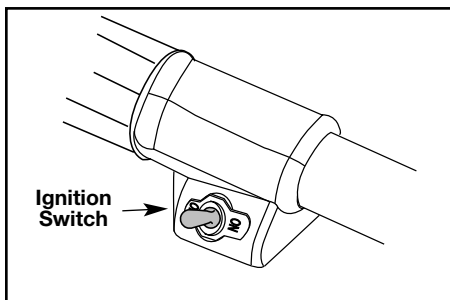
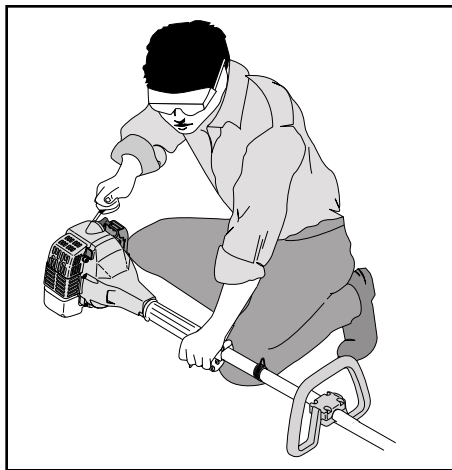

Fig. 5
Fig. 7
2. Put the **IGNITION SWITCH IN THE "ON" POSITION** (Fig. 5).
5. **WITH THE UNIT ON THE GROUND, SQUEEZE THE THROTTLE TRIGGER FULLY AND PULL THE STARTER ROPE BRISKLY** (Fig. 7) until the engine sounds like it wants to run (normally 2 to 5 pulls).
7. **PULL THE STARTER ROPE BRISKLY 1 TO 3 TIMES TO START THE ENGINE** (Fig. 7).
**NOTE:** If the engine floods while attempting to start the unit, place the choke lever in the "RUN" position (B), squeeze the throttle trigger, and pull the starter rope briskly. The engine should start within three (3) to eight (8) pulls.
10. To stop the engine, put the **IGNITION SWITCH IN THE "OFF" POSITION** (Fig. 5).